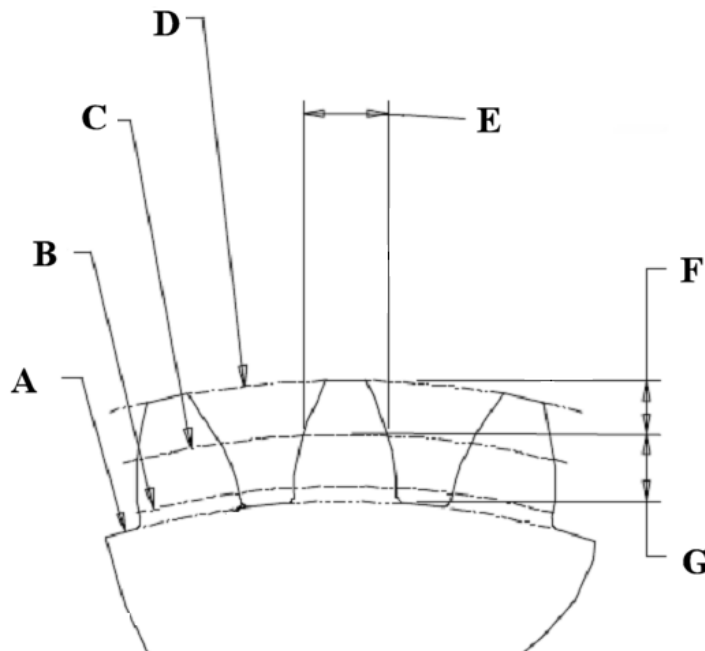

Figure 6: Gear Terminology
- Figure 6 below contains Gear Terminology from A to G. Correctly identify the correct terms for each of the letters from A to G. (8 Marks)